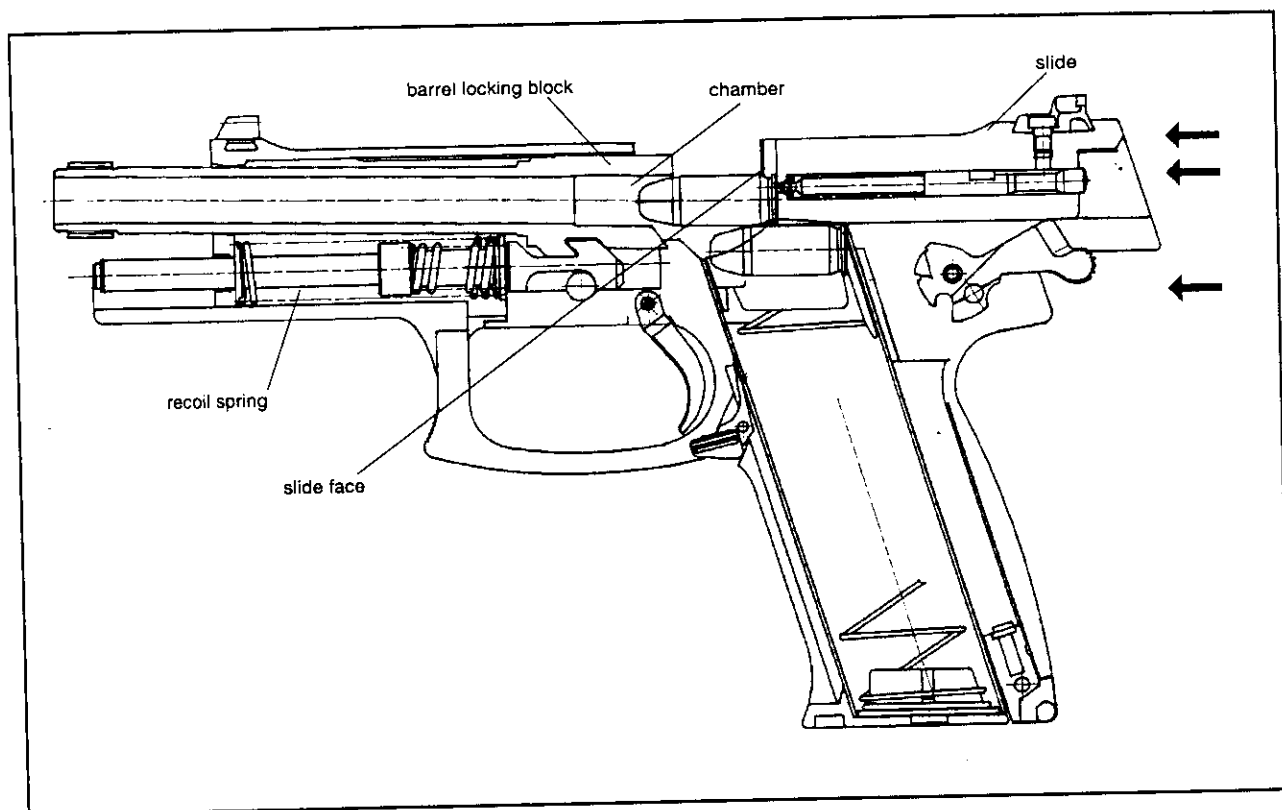

Figure 8 Feeding
- F. **Feeding** - (See Figure 8) - The compressed recoil spring drives the slide forward. If the magazine is empty, the magazine follower will lift the slide release to a point where it will stop the forward progress of the slide. If the magazine is not empty, the face of the slide will make contact with the top round in the magazine. The round will be driven from the magazine towards the chamber. The tip of the projectile is guided into the chamber by the magazine lips until the round clears the magazine completely. At that moment the claw of the extractor snaps onto the rim of the cartridge case as it becomes parallel with the bore.